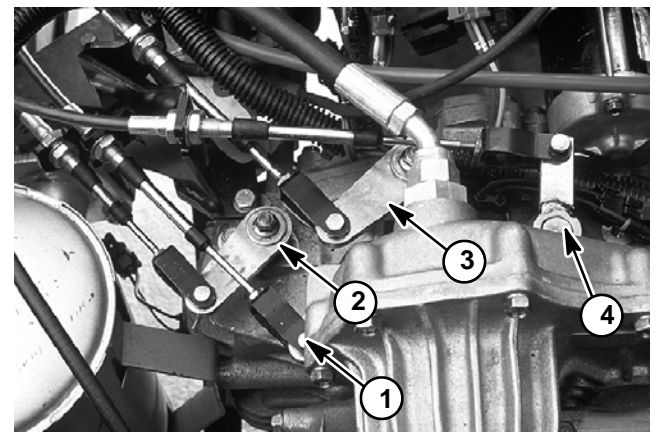

Figure 15
10. Disconnect shifter control cables from levers on transaxle and PTO (if equipped) (Fig. 15). Do not loosen cable jam nuts at shift cable mount bracket.